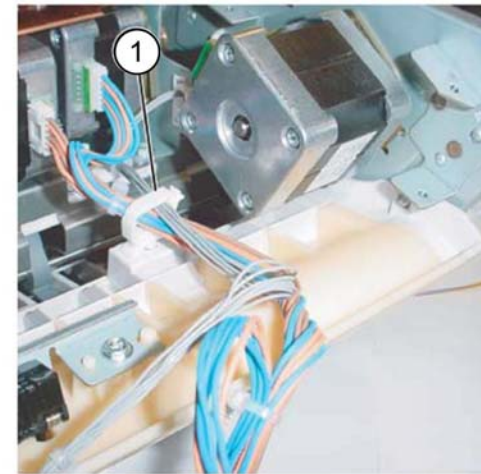

Figure 3 Harness release
9. Release the harness from the clamp, Figure 3.